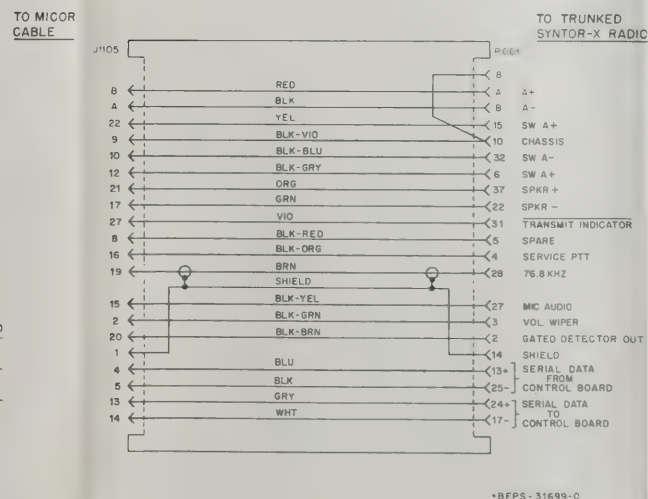

Figure 3. TRN4735A Cable Converter Box Wiring Diagram
Step 4. Connect the TRN4735A Cable Converter Box to the front of the Trunked *SYNTOR X* radio. Secure with large retention screw on the cable converter box. Figure 3 shows the cable converter box wiring diagram.